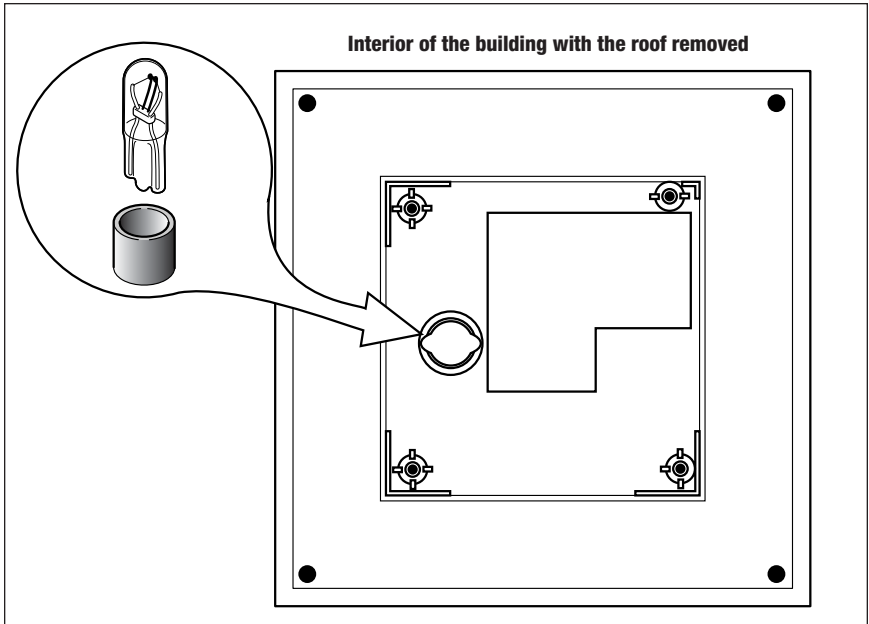

Figure 6. Lamp location
3. Locate the lamp in its small, black fixture. Carefully pull the lamp straight up and out of the socket. Refer to the Figure 6 on page 11 for the lamp location.